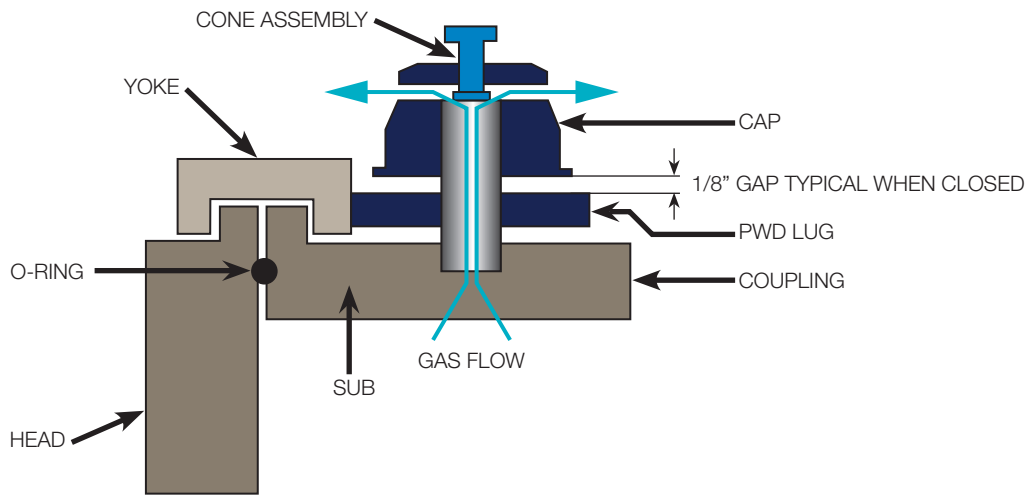

Figure 8: Pressure Warning Device (PWD) Diagram
5.5 Slightly open the PWD to check if the internal pressure is zero (see Figure 8).